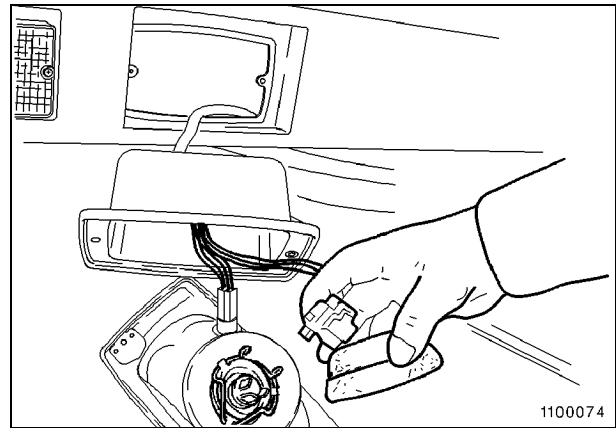

Fig. 2
- Withdraw the electrical connector (Fig. 2).